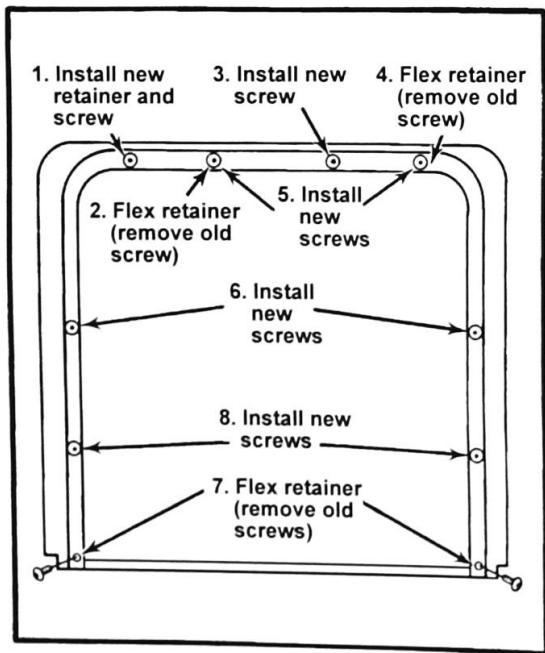

Figure 4
5. For new screw and retainer replacement sequence, see Figure 4. Follow in order, steps 1 through 6.